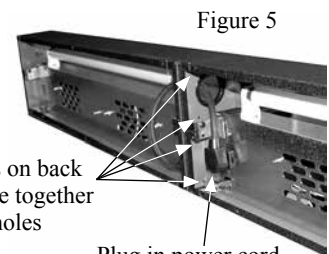

Figure 5
- Carefully lay both units on back side. Secure the bottoms of the units with four provided screws. (Fig. 5) NOTE: LLD3 model requires 10 screws (provided).
- Plug the power cord into the right LLD. (Fig. 5)